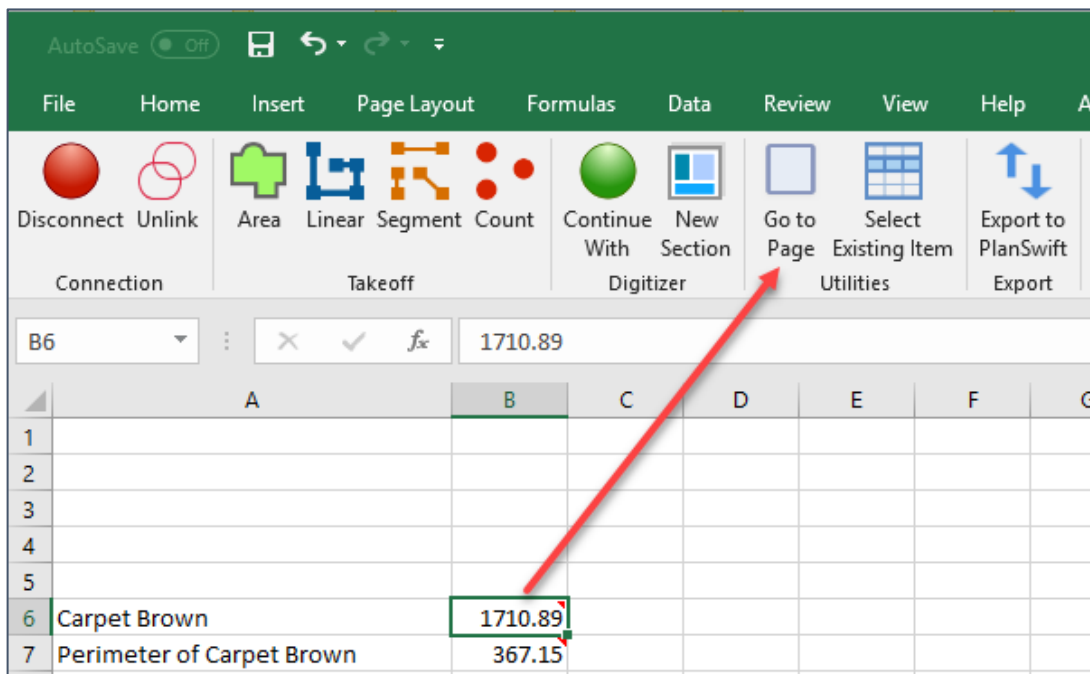

Figure 39-H
4. Go to PlanSwift. The page where the takeoff value is located will be highlighted. Open the page by clicking on the **+**, if necessary, to view the takeoff value (Fig. 39-J).